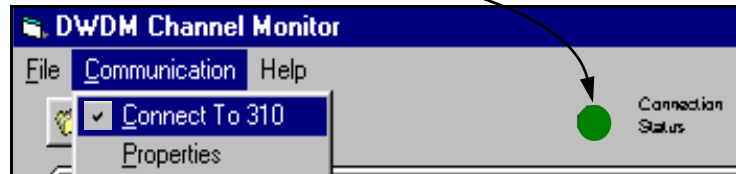

Figure 2-31. DWDM Channel Monitor Connects to T-BERD 310
- a. **Connect to 310** — Establishes serial communications between PC/laptop to T-BERD 310 via cabling. Scan Mode property sheet LED illuminates green (see Figure 2-31).